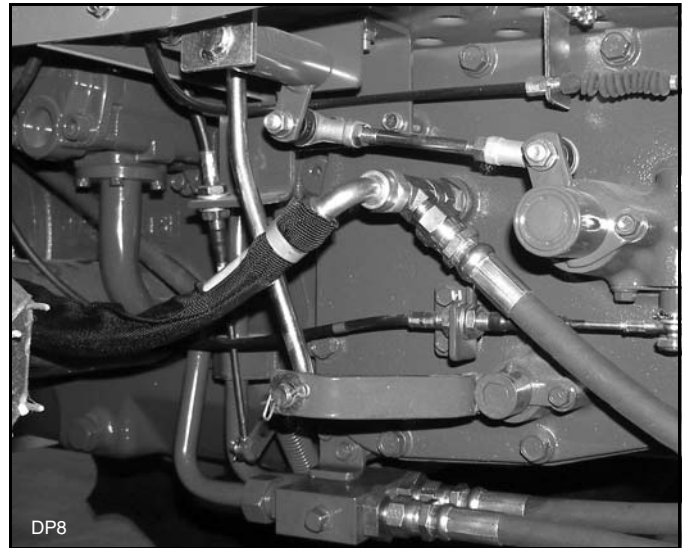

Figure 13. Hose Connection
5. Route hose (2) over rear axle and connect opposite end of hose to hydraulic tee (Figure 13).